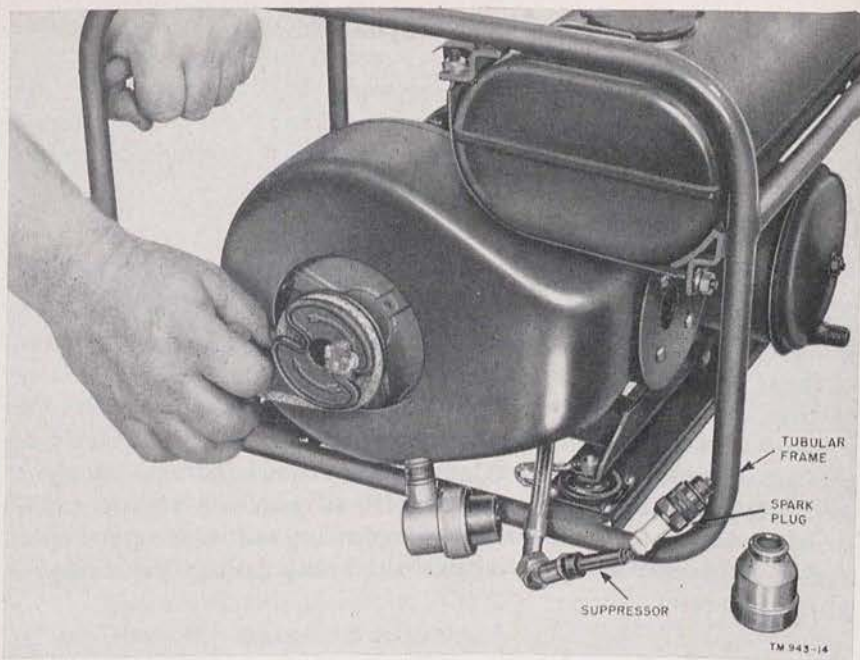

Figure 14. Testing spark plug.
- c. Remove the spark plug. Lay it on the tubular frame with the high-tension wire connected and spin the engine to check the spark. If no spark occurs at the points, clean out the plug and spark plug adapter or replace it with a new one. The spark plug points should have a gap of .035 inch. When making this test, be sure that only the body of the plug touches the tubular frame (fig. 14). Also, check the spark plug adapter to see that it is clear.